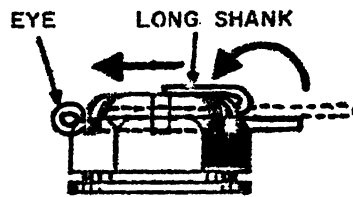

FIGURE 8
*Keep the shank tight against the bolt as you bend it over the end. See Figure 8.